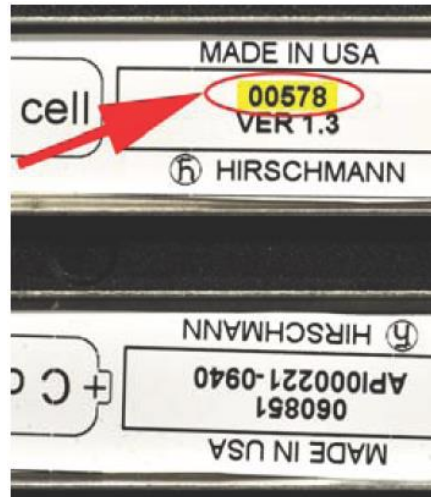

Figure 28: Node ID
- The Node ID is located above the software version number (see Figure 28: Node ID)